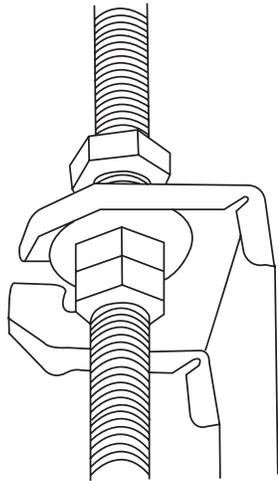

Fig. 4.5
- Mount the indoor unit. You will need two people to lift and secure it. Insert suspension bolts into the unit's hanging holes. Fasten them using the included washers and nuts (See Fig. 4.5).